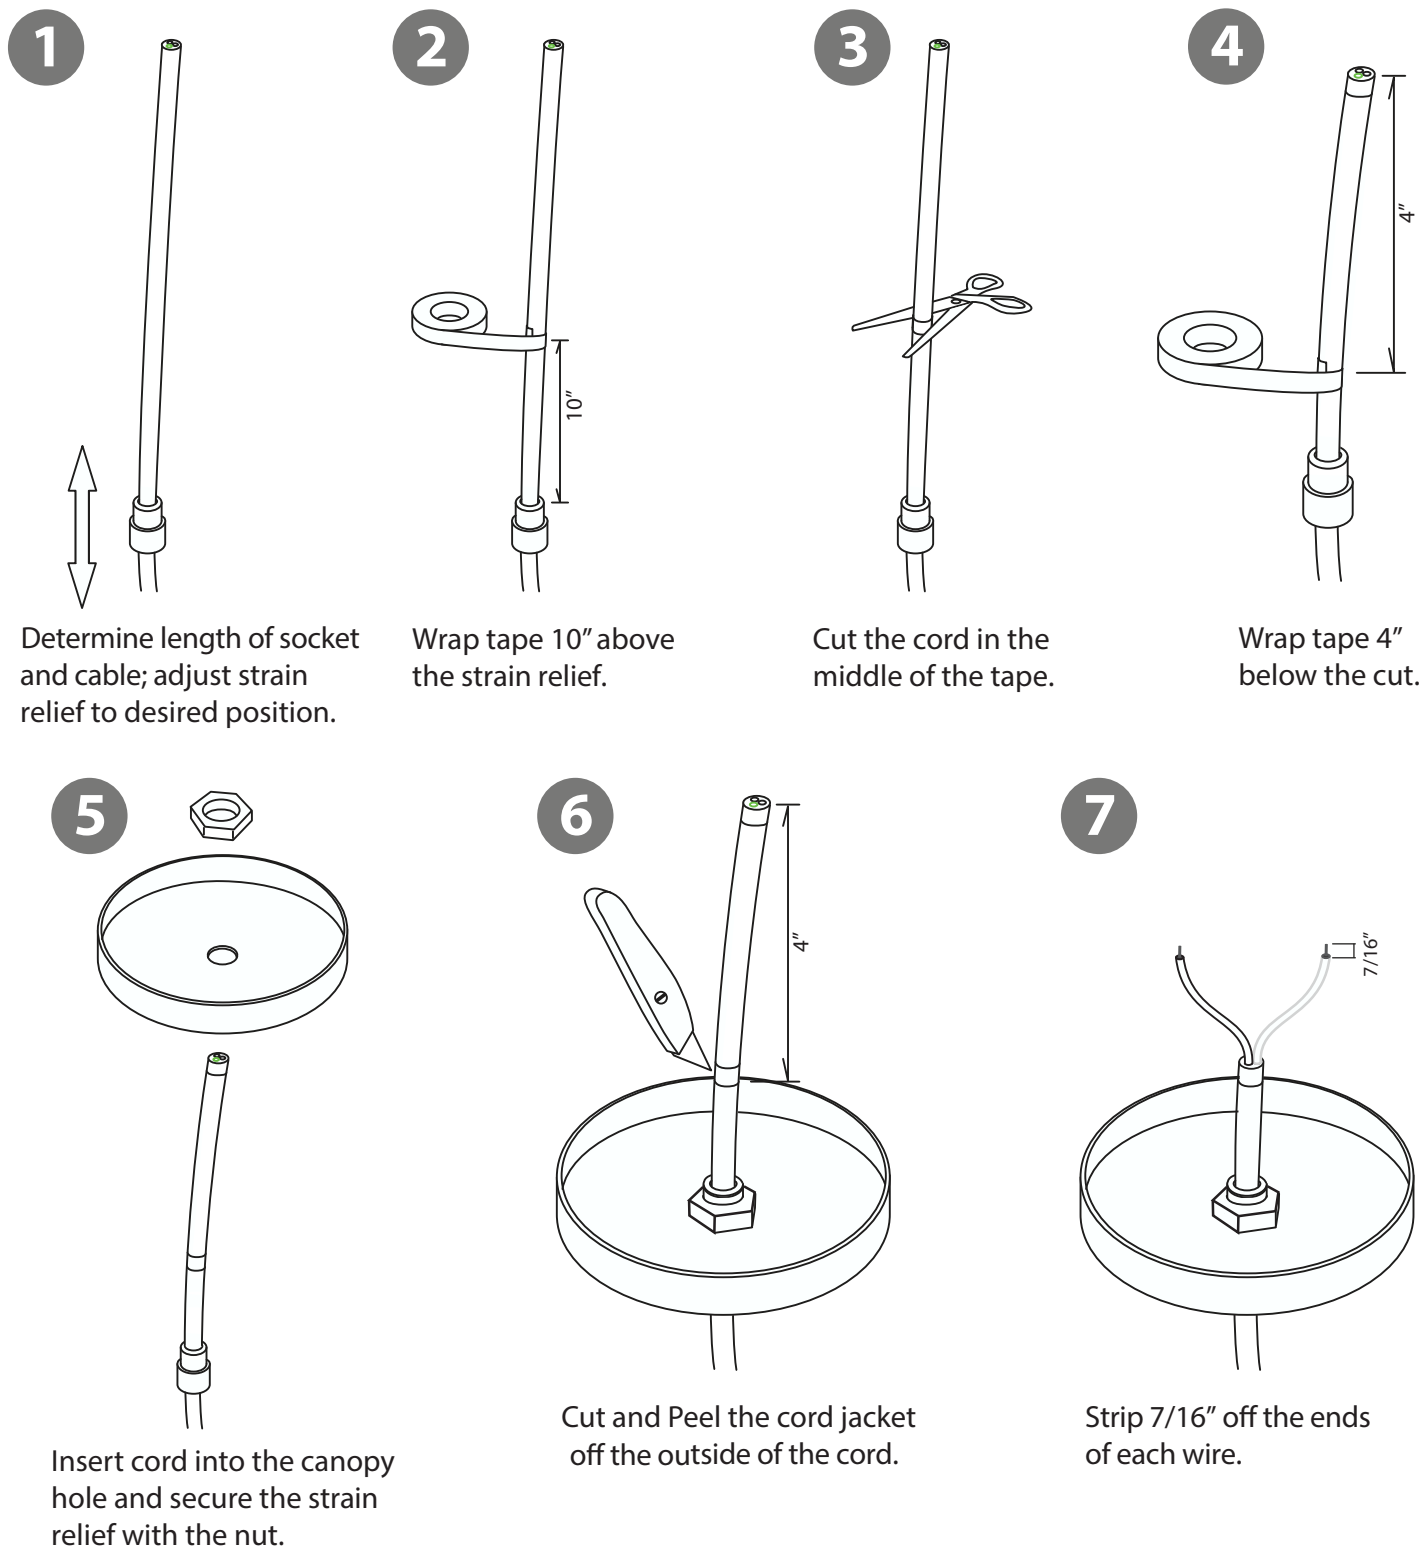

Figure 2.
3. Loosen strain relief screw(13) and adjust the fabric-covered wire(14) to the required length. Wind the excess wire into a loop, then secure it together with the included Velcro strap so that it doesn't come undone. Then tuck it into the canopy(11).
5. To cut fabric wire to shorter length, *see Figure 2*. To avoid fabric fraying, adjust the gripper to the position desired. Wrap electrical tape 10" above gripper. Cut the cord in the middle of the tape. Wrap tape 4" below the cut. Insert cord into canopy hole and secure the gripper with the nut. Carefully cut and peel only the outside jacket of the cord to expose individual wires; strip wire ends to expose 7/16" of stranded wire.